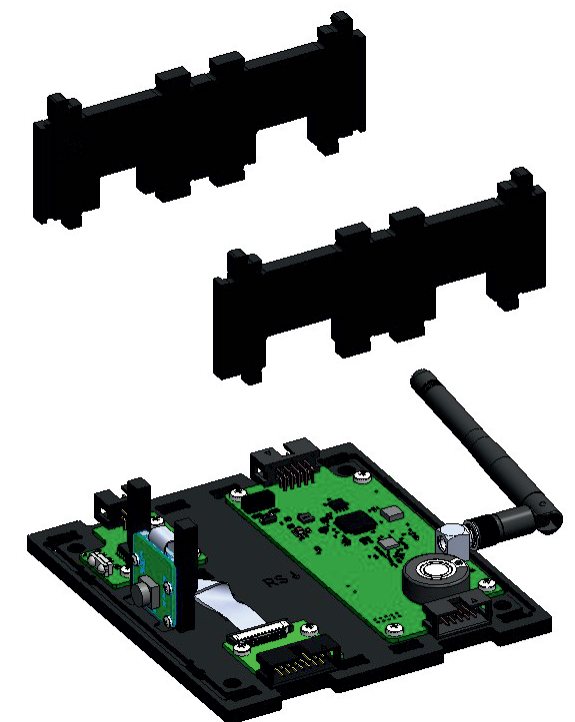

Fig. 29: Mounting side walls
6) Mount side walls. To do that, align side wall protrusions with holes in the base plate and latch them (Fig. 29):